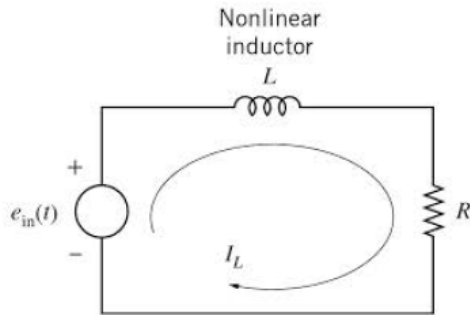

Figure P6.10
- 6.10** A series RL circuit with a nonlinear inductor is shown in Fig. P6.10. Recall that the following nonlinear function for inductor current was used in Problem 3.11 in Chapter 3